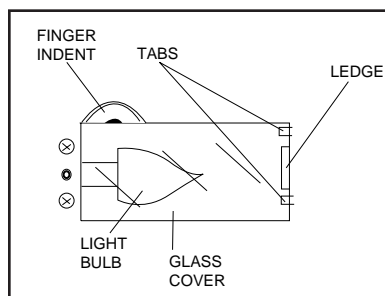

Figure 14
4. Carefully push Glass Cover all the way toward the right (away from screws). Place your index finger into Finger Indent and carefully lift Glass Cover out. See Figure 14.
6. Replace Glass Cover. Be sure Glass Cover fits between the ledge and the two small tabs as shown in Figure 14.